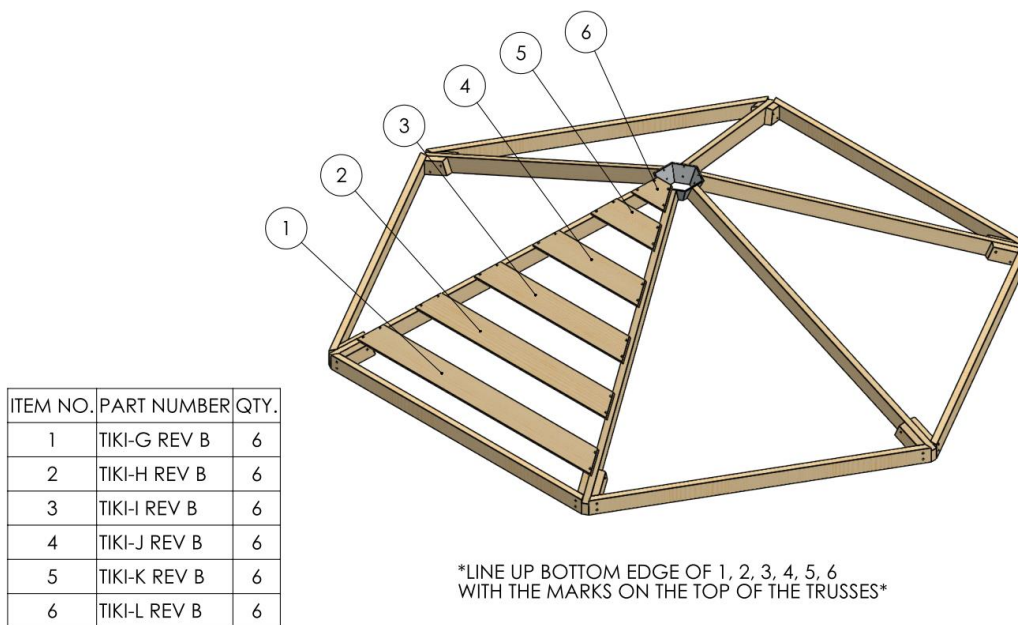

Figure 12
13) Attach truss purlins in place starting with the top and working your way down to the bottom. Attach using 2 1/2" screws(Bag #2). Align the bottom of the purlins with the mark on the roof truss. See Figure 12.